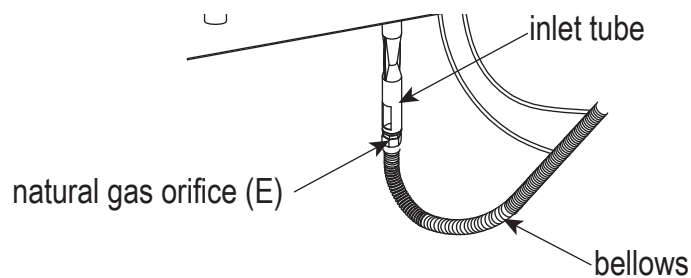

Figure 10
3. Replace the propane orifice with the natural gas orifice, screw the natural gas orifice with the bellows tightly, then connect and tighten the natural gas orifice with inlet tube (See Figure 10). Natural gas orifice (E) (dia4.18mm size) is painted with black mark.